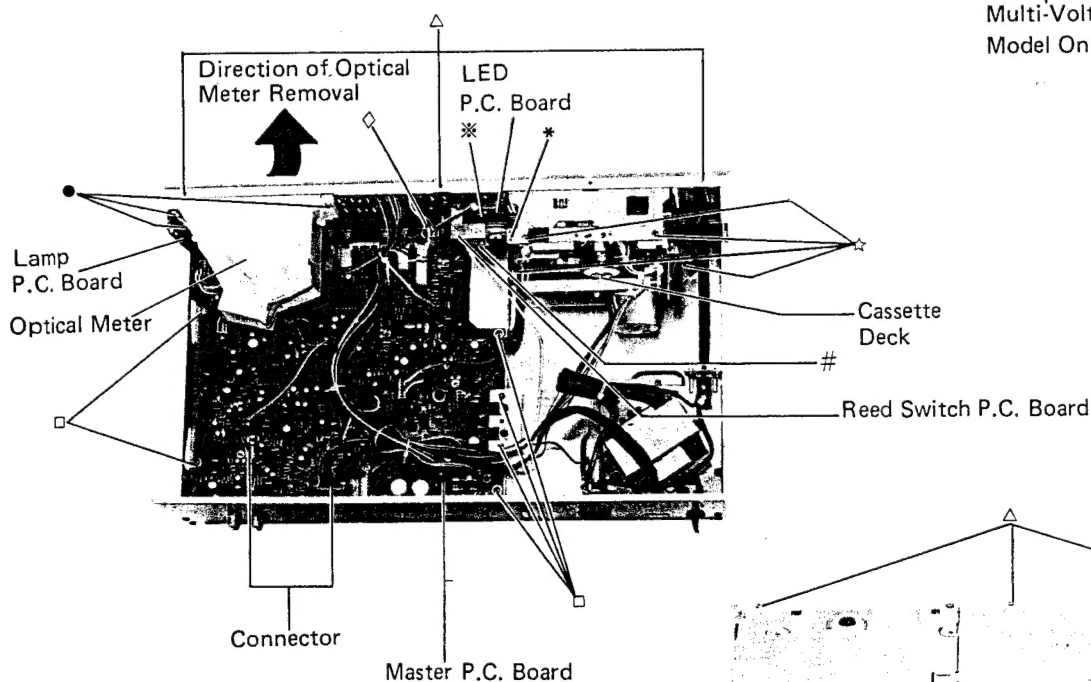

Figure 5
- (1) After removal of top cover, remove two connectors as shown in Figure 5.
- (2) Remove one screw marked "*" as shown in Figure 5.
- (3) Remove six screws marked "△" as shown in Figures 5 and 6.
- (1) After removal of the top cover and front panel, remove three screws marked "●" as shown in Figure 5.
- (3) Pull out the optical meter as shown in Figure 5.
- (4) Disconnect all wires from the optical meter and Lamp P.C. Board.
- (5) Remove the optical meter with Lamp P.C. Board.
- (1) After removal of top cover and front panel, remove six screws marked "□" from the master P.C. Board as shown in Figure 5.
- (3) Remove three screws marked "◇" as shown in Figures 5 and 7.
- (1) Remove one screw marked "♯" as shown in Figure 5.
- (2) Disconnect all wires from the Reed Switch P.C. Board.
- (1) Remove one screw marked "※" as shown in Figure 5.
- (2) Disconnect all wires from the L.E.D. P.C. Board
- (2) Remove four screws marked "☆" from the cassette deck as shown in Figure 5.
- (3) Disconnect all wires from the cassette deck.
- (4) The cassette deck can be completely removed from the chassis.